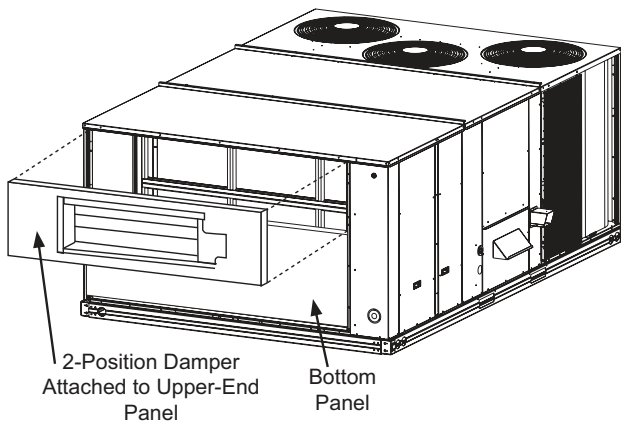

Fig. 2 - Upper End Panel with Damper Attached
- Lift the provided upper-end panel with damper attached in place over the top of the bottom panel. (See Fig. 2.) Do not secure in place yet.